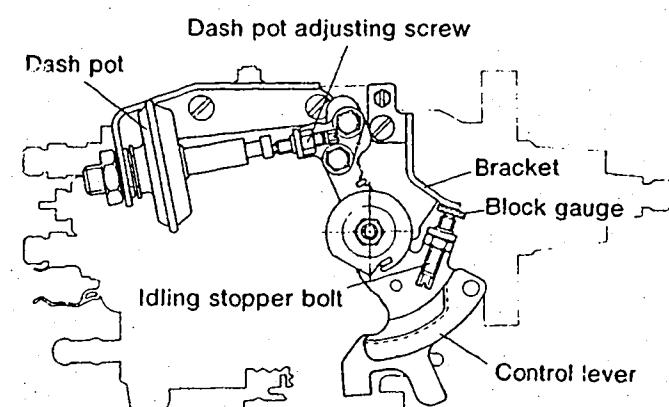

Fig. 2
- Calculate the timer stroke from Fig. 2 according to the atmospheric temperature at the time of adjustment.
- Calculate the block gauge dimension  $\ell \pm 0.05\text{mm}$  from Fig. 2 according to the atmospheric temperature at the time of adjustment.
Formula for calculating Fig. 2
1. Calculate the timer stroke from Fig. 2 according to the atmospheric temperature at the time of adjustment.
1. Calculate the block gauge dimension  $l \pm 0.05$  mm from Fig. 2 according to the atmospheric temperature at the time of adjustment.